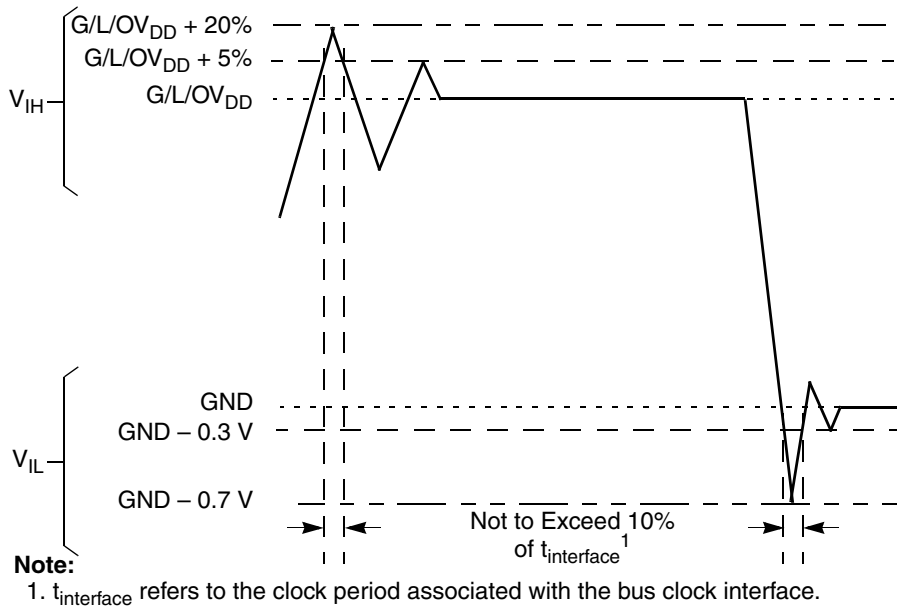

Figure 2. Overshoot/Undershoot Voltage for $GV_{DD}/OV_{DD}/LV_{DD}$
- (M,L,O) V_{IN} and MV_{REF} may overshoot/undershoot to a voltage and for a maximum duration as shown in Figure 2.
Figure 2 shows the undershoot and overshoot voltages at the interfaces of the MPC8347EA.